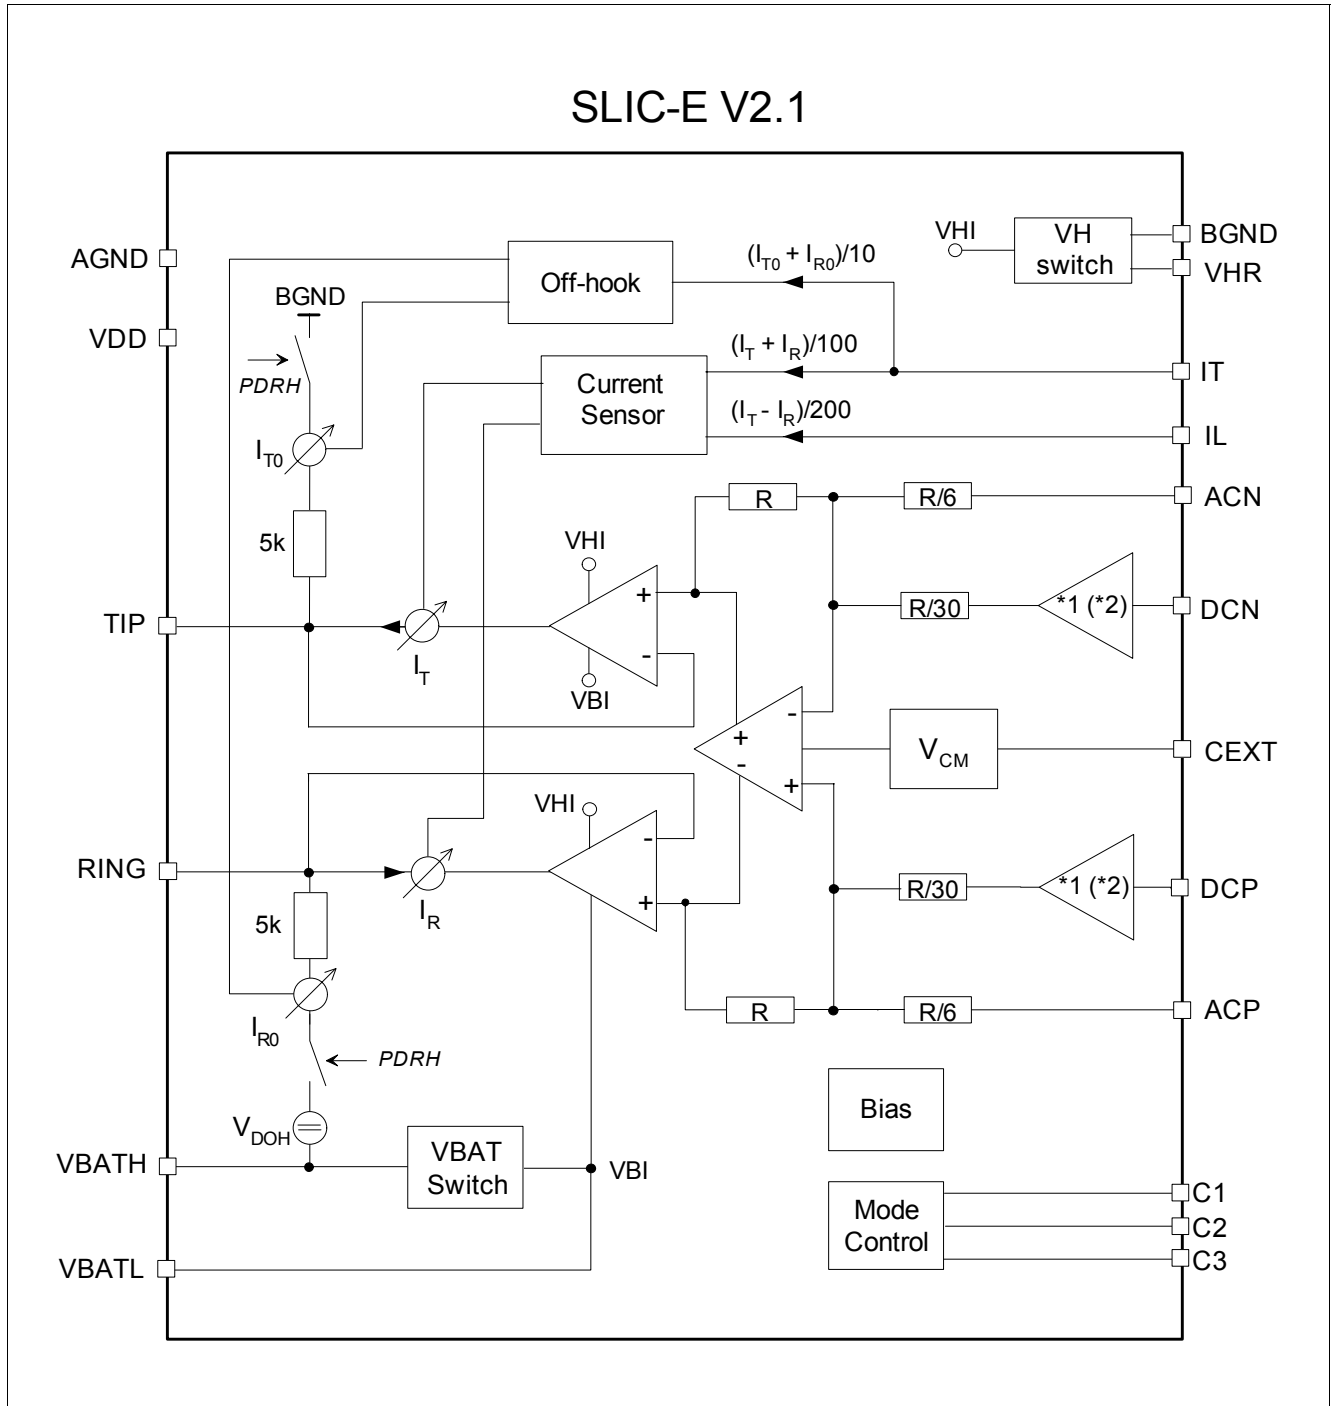

Figure 6 Block Diagram
A functional block diagram is shown in **Figure 6**.
Power consumption is reduced to a minimum by switching completely off all voice transmission functions. To allow off-hook detection, PDRH provides a connection of 5 k Ω each from TIP to BGND and RING to VBATH, respectively, while the output buffers show high impedance (see Figure 6). The current through these resistors is sensed, scaled by 1/5 and transferred to the IT pin for off-hook supervision.
3) Due to the changed battery switch concept (see **Figure 6**), the VBATL series diode must not be shared between different channels; one diode per channel is mandatory (also for applications with TSLIC).